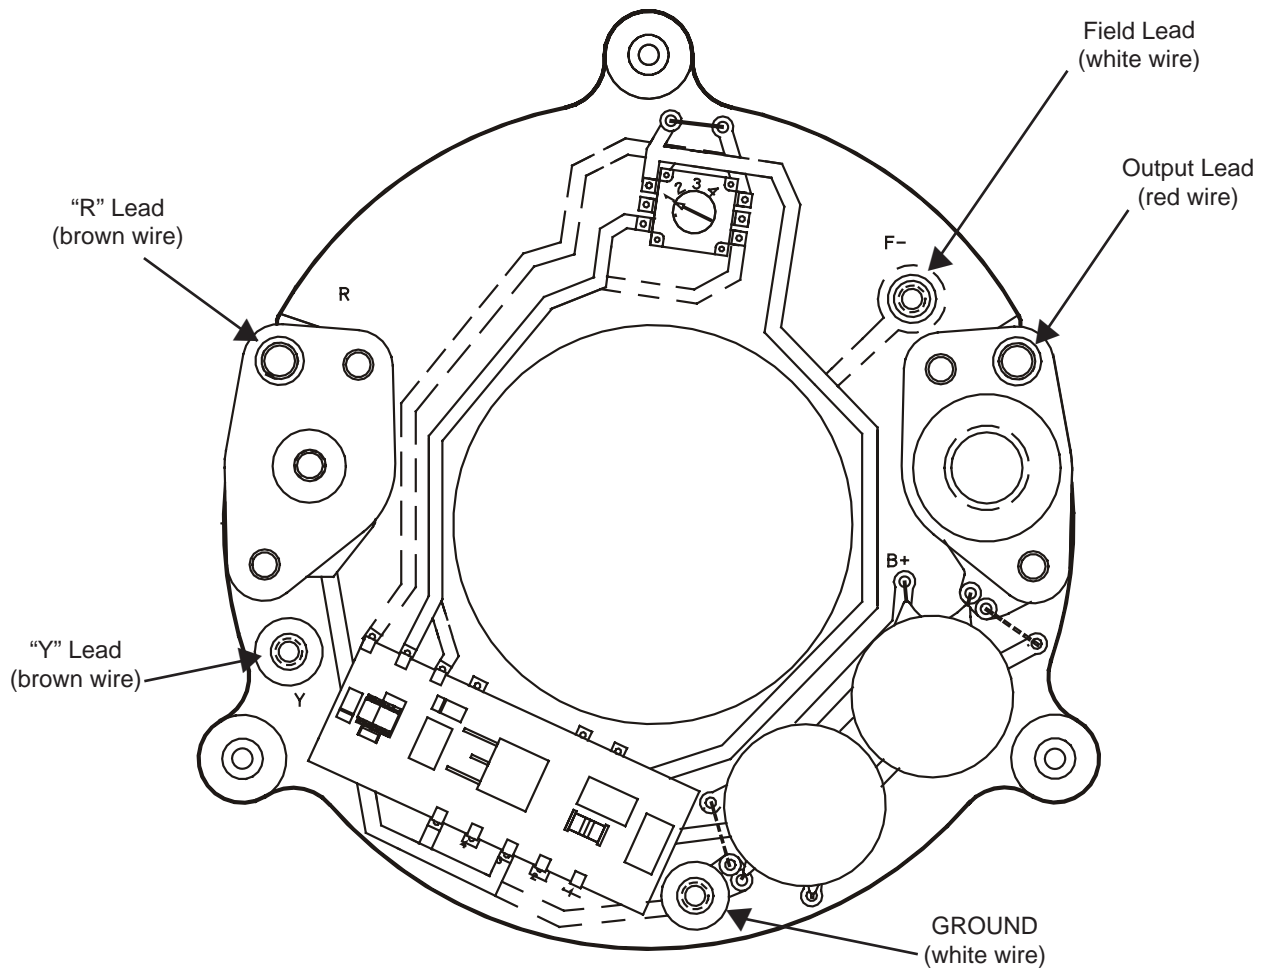

Figure 4 - Series 200 Wiring
4. Install new circuit board and wire per Figure 4.